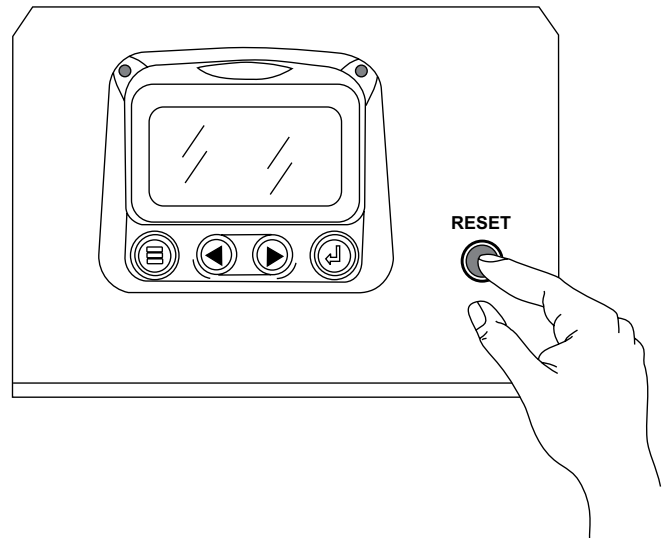

**Figure 69. High Temperature Code Example**
- Once the "Stored Codes" parameter is highlighted, **PRESS** the **enter key** to view the stored codes. Figure 69 is a typical example of a high temperature code.